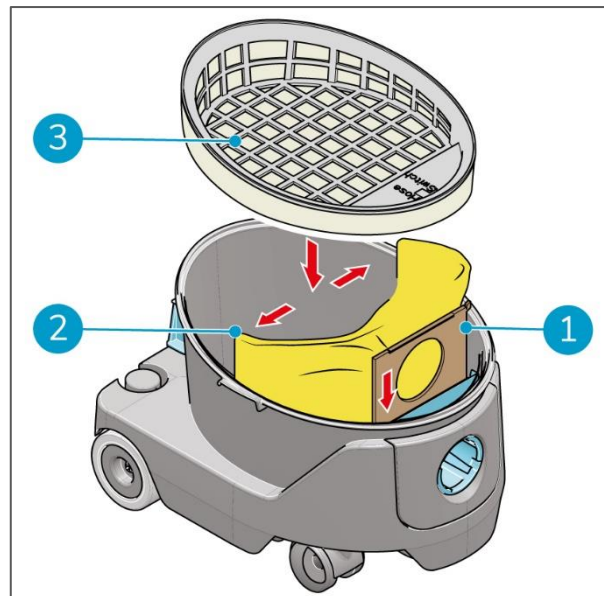

Figure 12
11. Slide the cardboard collar of the new dust bag (Figure 12, pos 1) fully into the slots to insert the dust bag.
12. Unfold the dust bag (Figure 12, pos 2).
13. Replace the filter bag (Figure 12, pos 3).